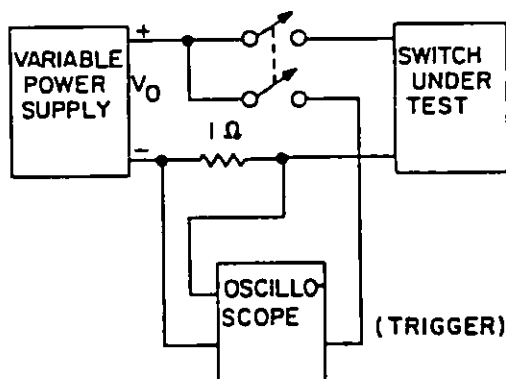

FIGURE 5. Operating and holding current test setup.
4.7.9.3 Operating current. With the switch at room ambient temperature, apply nominal operating voltage (see 3.1) and measure the operating current for each RF position, using the test setup of figure 5. Repeat the above procedure with the switch at the lowest and highest specified operating temperature (see 3.1). Care should be taken during the measurements to insure that the temperature of the switch has stabilized.